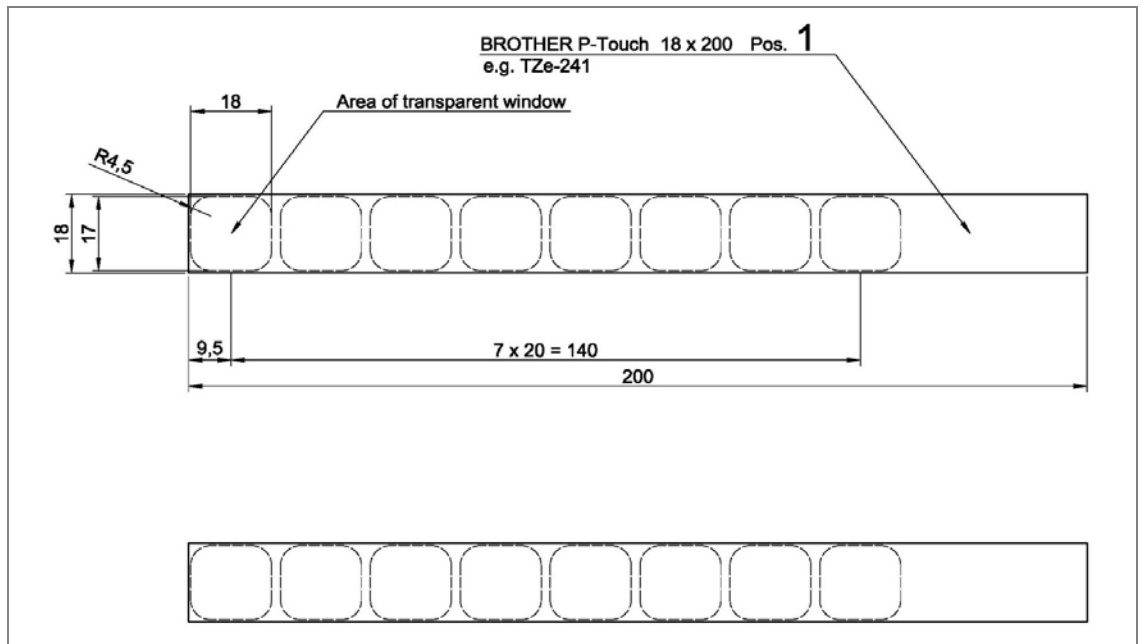

Figure 2 Insertable label strip for LEDs
5. Eight configurable LED indications (multi-coloured: green/red/yellow) and labelling area for LED-indications (inserted strip, see Figure 2: mm as unit of measure)